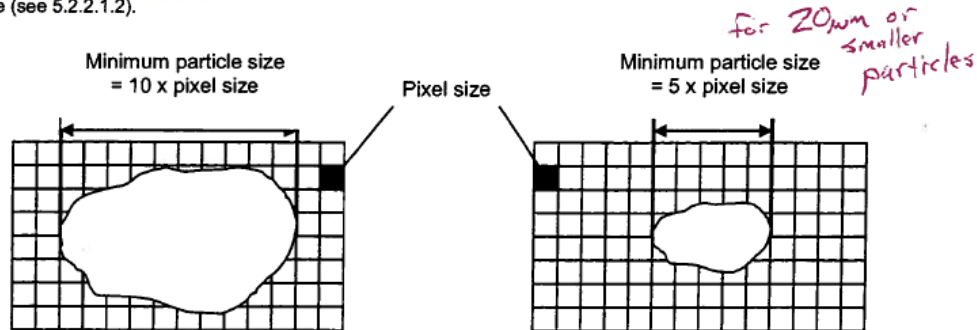

Figure 3 — Pixel resolution of the analysis image
ISO 16232 specifies that for most particles you must be able to fit a minimum of ten pixels into the longest axis of the particle – it's length. Then due to the requirement to measure very small particles – particles actually smaller than a human red blood cell – it allows very small particles to be measured by fitting 5 pixels into the longest axis. See Figure 3 from ISO 16232-7:2007(E) to help you visualize what I am trying to explain with words.